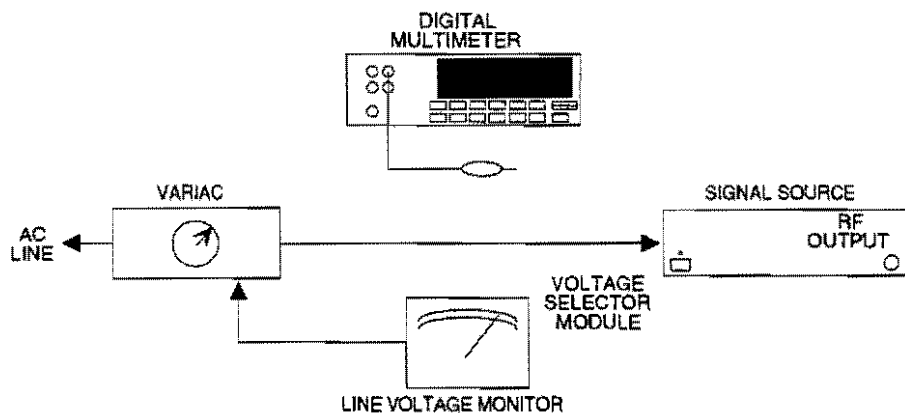

Figure 10-22. Test Equipment Setup for Power Supply Adjustments
- Step 2.** Connect the test equipment as shown in Figure 10-22.
- Step 1.** Connect the test equipment as was shown in Figure 10-22.